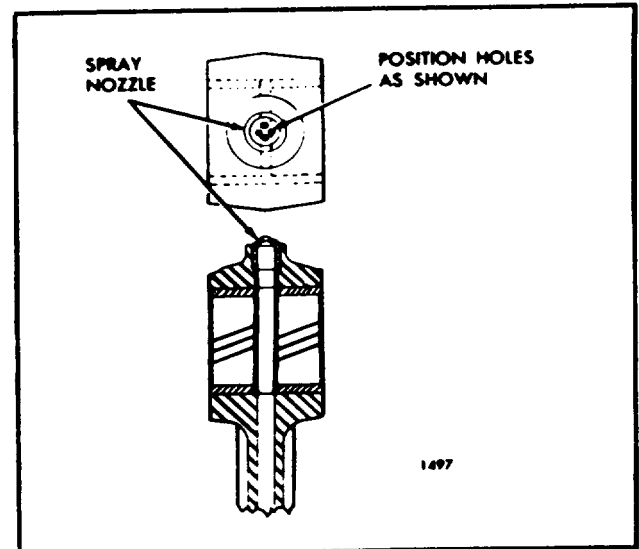

Fig. 6. - Location of Spray Nozzle in Connecting Rod
1. Start the spray nozzle, with the holes positioned as shown in Fig. 6, straight into the counterbore in the top of the connecting rod.